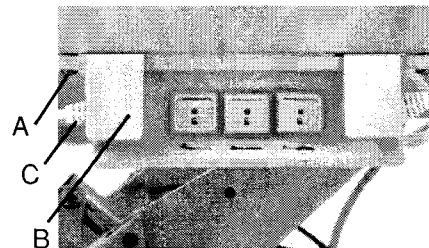

Figure 1 1232A116.tif
- 6 With the Phillips head screwdriver, slightly loosen the left-hand attachment screw (A) of the lock-out unit and slide the connector cover (B) toward the middle of the unit (refer to figure 1).
- 7 Remove the connector (C) from the lock-out unit (refer to figure 1).